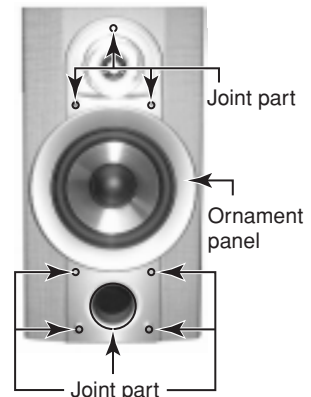

Fig.2
3. A minus driver is inserted in a surrounding round of the ornament panel little by little, and the ornament panel is removed. (See Fig.2)